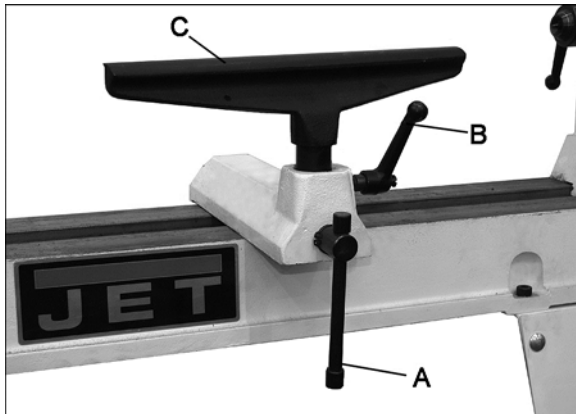

Figure 7
**Tool Rest** (Figure 7) – Attaches to any location on the bed or bed extension. Used to steady cutting tool during spindle turning or face plate operations.
Position the tool rest base on the bed or bed extension by releasing the lock handle (A, Figure 7) and sliding to the desired position. Tighten handle (A, Figure 7) to lock.
Adjust the height of the tool rest by loosening handle (B, Figure 7) and raising arm (C, Figure 7).